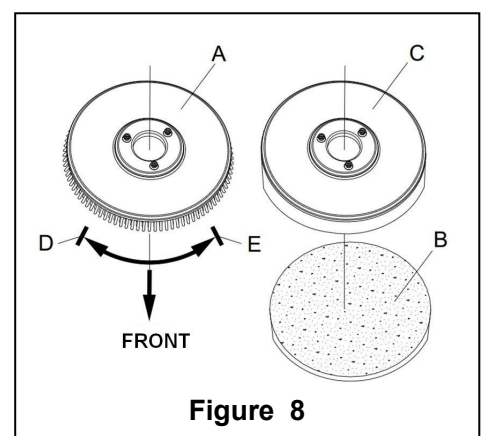

Figure 8
According to the type of floor to be cleaned, the machine may be installed with brush (Figure 8, A), or a pad-holder (Figure 8, B and C).
- (Only applicable to **AS430B** and **AS510B**): make sure the switch (41) is at the disconnecting (O) condition.
- Press down the handlebar (2) to lift the tank body (26).
- Put the brush (A) or the pad-holder (B – C) under the case.
- Use the handlebar (2) to lower the tank body (26) to come into contact with the brush or pad-holder.
- To install the brush/pad-holder automatically, turn the power switch (41) to the "I" position and press down the safety switch (1). Gently push the machine forward so as to allow the belt wheel at the bottom of the tank body to align with the brush or pad-holder which can then be installed. Then release the safety switch. If necessary, repeat this procedure until the brush/pad-holder is installed.
- If Step 5 above proves to be difficult, use the manual method by following the arrow head (D) to install the brush/pad-holder (as shown in Figure 8).
- To automatically unload the brush/pad-holder, turn the power switch (41) to the "O" position. Use the hand to hold the handlebar, and press the machine downwards until the guide wheel touches the floor and the brush/pad-holder hangs in the air. Turn the power switch (41) to the "I" position, and press down the safety switch to let the brush or pad-holder turn until the brush/pad-holder drops to the floor.
8. 8. If Step No. 7 above proves to be difficult, use the manual method by turning the brush/pad-holder in the direction opposite to the normal turning direction, and it can be taken off. (as shown in Figure 8)